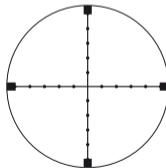

Fig. 3
- 1 Look through the eyepiece with your eye positioned about 10 cm (4 in.) away from the eyepiece to see each reticle (Fig. 3). Be sure your eye is positioned with proper alignment and with proper eye relief, otherwise the view will “black out.”